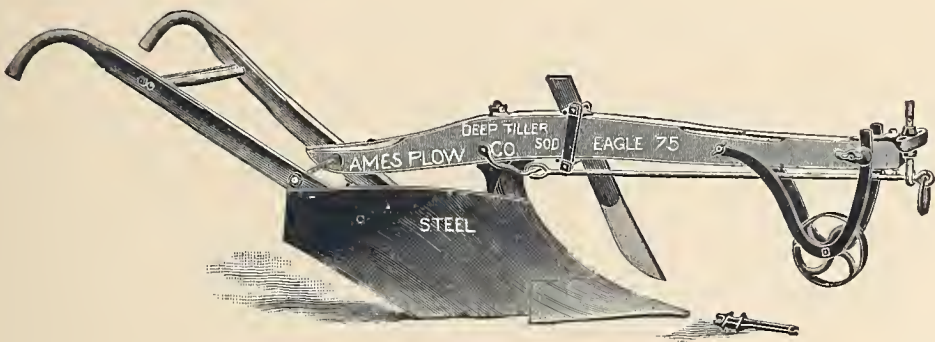

Fig. B 245.—Eagle Deep Tilling Plow, No. 75. Steel.
*The Eagle Deep Tilling Plows Nos. 75 and 55* can now be furnished in STEEL as per *Fig. B 245*, reproduced from the iron originals, so that they are exact counterparts in working qualities. This makes a most desirable plow for use in soil composed of vegetable substance, where absence of grit prevents the scouring or polishing of the Iron Plow.